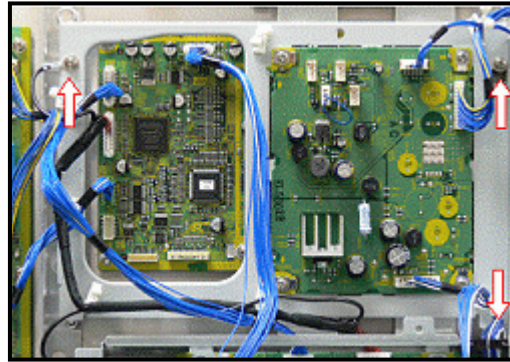

Figure 12. PB Board Metal Frame
4. Remove the three screws as indicated in Figure 12 and remove the PB-Board metal frame. The PB board remains attached to the metal frame.